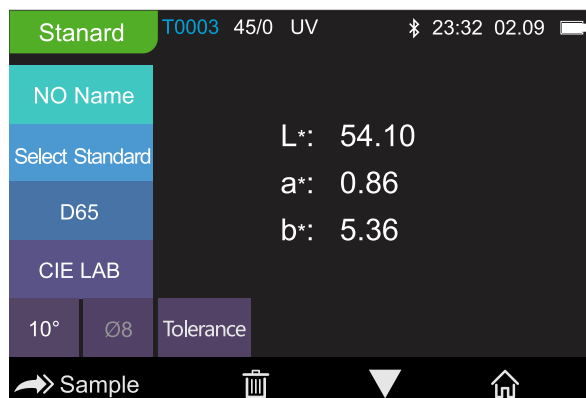
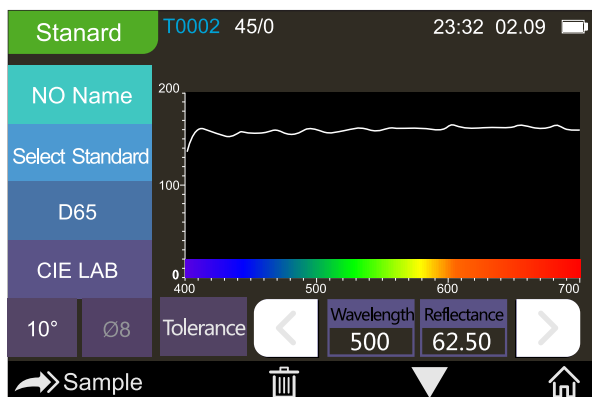
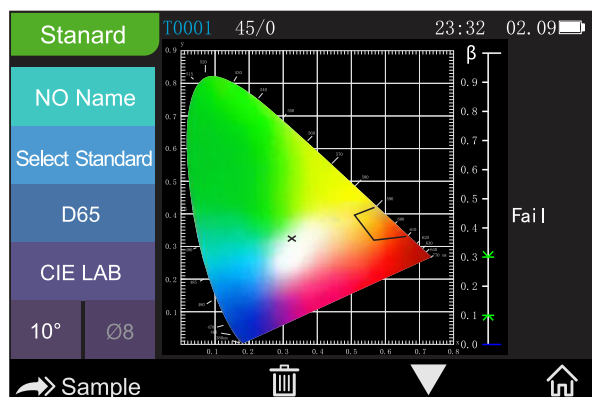
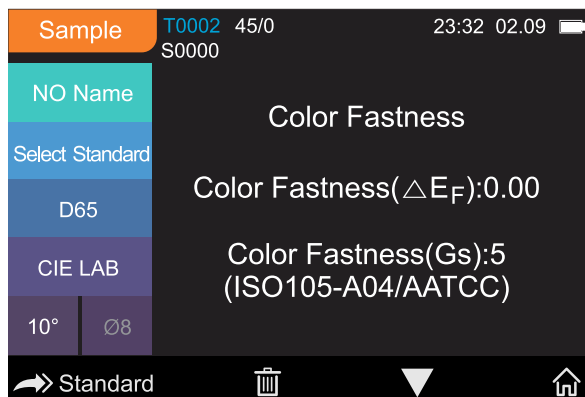

Figure 7 Chroma measurement
Figure 8A Spectral Reflectance
Figure 8B Traffic sign information
Figure 9 Color Index
As shown in Figure 7, it is working condition area at the top of measurement interface, displaying the status of measurement mode (SCI/SCE), Bluetooth and UV conditions. At the left side, it is shortcut display, it could switch different modes by pressing different icons. At the middle, it displays different chromatic data according to different setting of color formula. It is operation buttons area at the bottom, which could operate the data by pressing the different buttons. Figure 8A is spectral reflectance interface and Figure 9 is color index interface. Click “▼” to do quick switchable.
If the measurement of traffic signs in the system settings is off, the “Select Standard” in Figure 7 will be gray and there will be no response by clicking the shortcut key. If the measurement of traffic signs is on, the “Select Standard” in Figure 7 will display normally, and clicking the shortcut key will enter the selection interface of traffic signs.
The spectral reflectance interface of Figure 8A will also become traffic sign information, as shown in Figure 8B.
16) β : the luminance factor of traffic signs; it will show “Pass” when the measured value is within the set range, otherwise, it shows “Failure”, as shown in Figure 8B.
Click “▼” to turn the page, and check whether the chromate coordinate of the measured sample is within the polygon of the traffic sign standard and whether the β value is under the allowable range of the traffic sign standard as shown in Figure 8B. It will show “Pass” only if both items meet the requirements, otherwise it will display “Fail”.